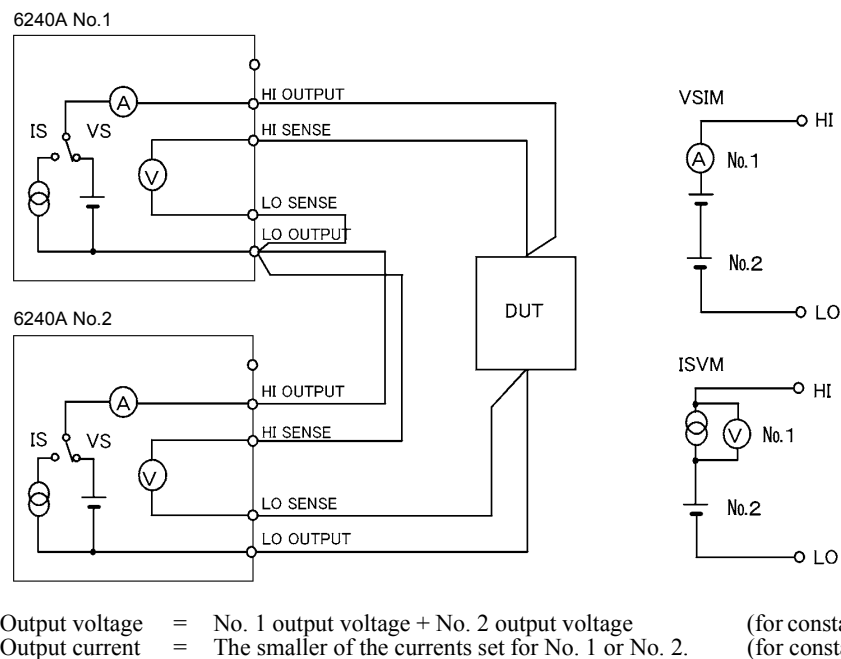

Figure 5-13 Serial Connection
Figure 5-13 shows a connection diagram in which two units are serially connected using a 4-wire connection.
3. *When using constant current, the current setting becomes the smaller of the two current settings as shown in Figure 5-13. The other becomes the constant voltage.*